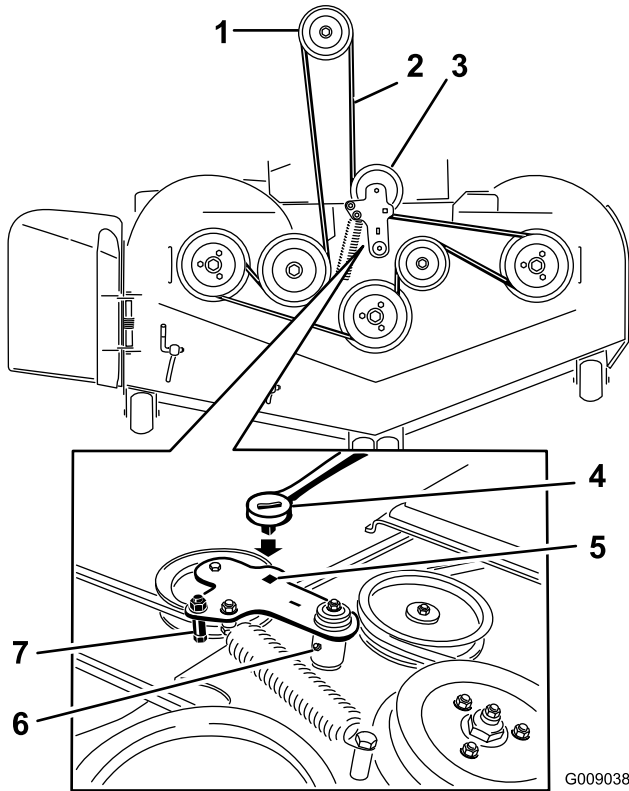

Figure 114
5. Lift up the floor pan and insert a ratchet into the square hole in the deck idler (Figure 114).
6. Rotate the deck idler clockwise and remove the mower belt (Figure 114).